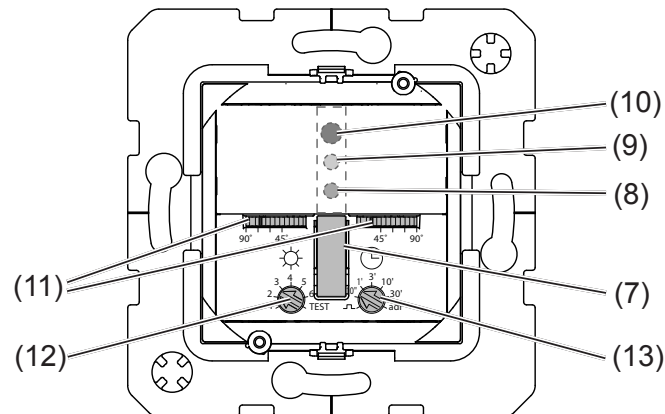

Figure 5
The detection angle can be restricted for the right side and for the left side via each adjuster (Fig. 5, 10) between 45° ... 90°. Thus, the detection angle can be between 90° and 180° (Fig. 6).
- Set potentiometer response brightness (fig 5, 14) to position TEST and set potentiometer delay time to a short time interval e.g. 10".
- Turn the delay time potentiometer (Figure 5, 13) to the desired position.